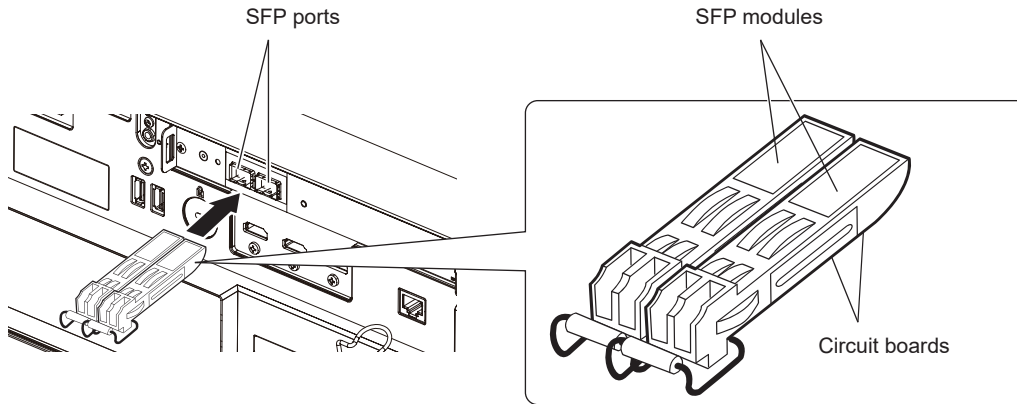

Fig. 1
**2) Install the SFP module to the SFP port. (Fig. 1)**